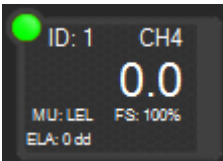

Figure 10
9. Specifically for each sensor (Figure 10):